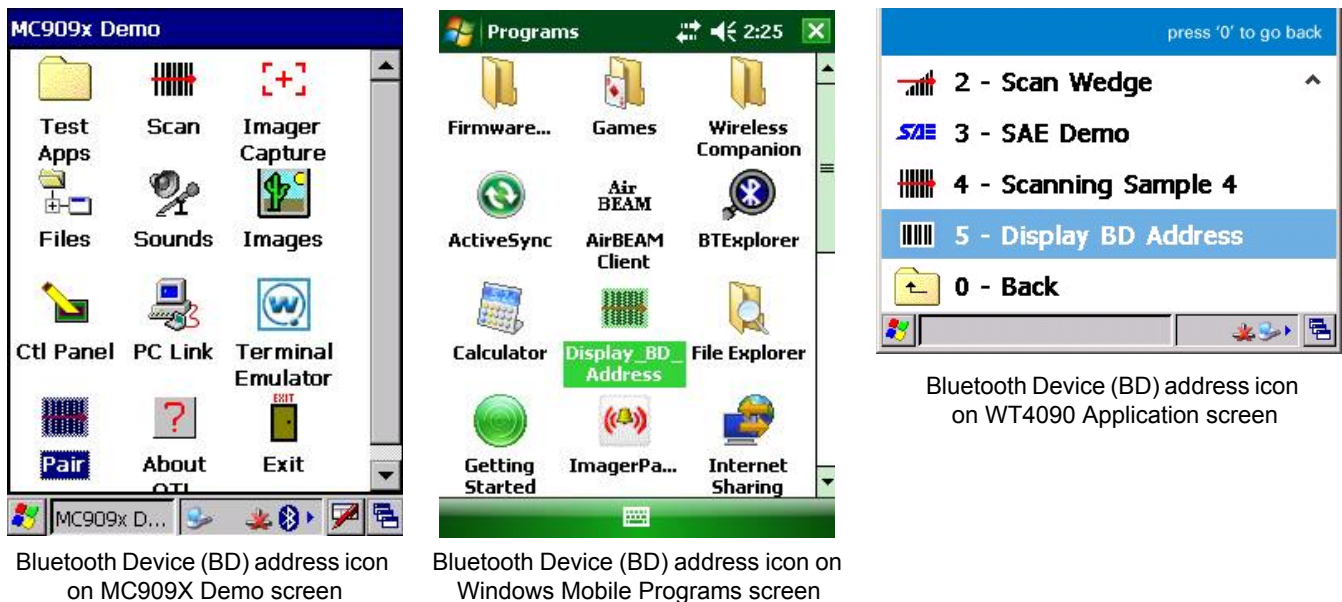

Figure 1-11 Icon of Bluetooth Device (BD) Address Application
3. Launch the Bluetooth Device (BD) address application (see Figure 1-11) from the mobile computer. Most BD Address applications display a pairing bar code image on the screen of the mobile computer.